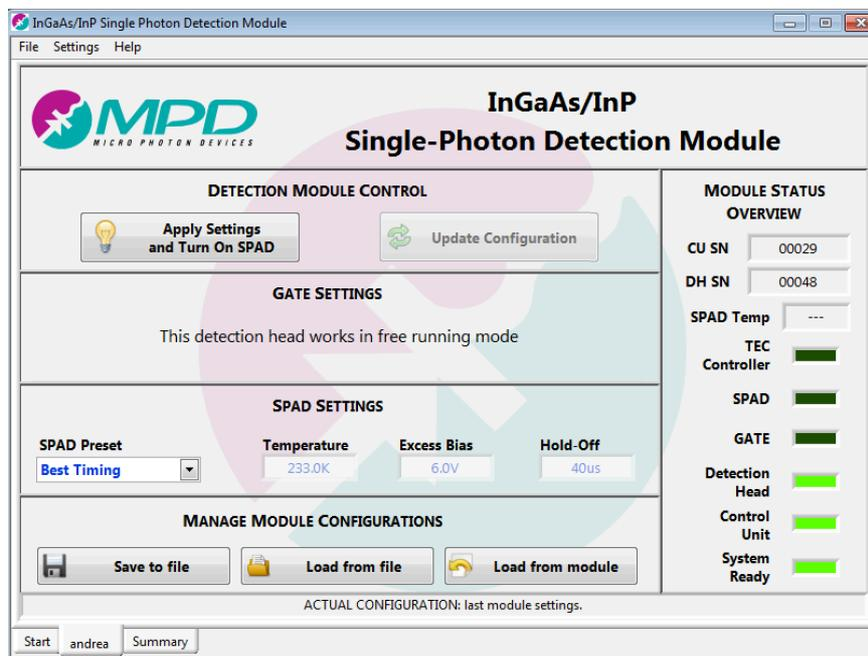
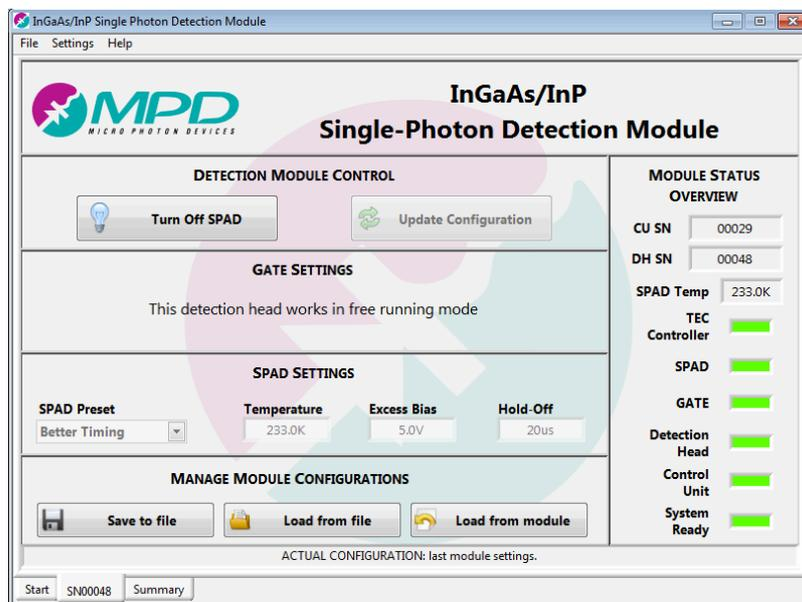

Figure 2.8. Module tab screenshot before turning on the SPAD.
Figure 2.9. Module tab screenshot after having turned-on the SPAD (with Better Timing preset).
After clicking the *Accept Config* button, in the *Start* tab, the software creates a module tab for each attached system. The tab label reflects the *Custom Name* given at the specific module. Every module tab opens an interface whereby all the configurable parameters of the detector can be set. In Figure 2.8 it is reported a page screenshot, taken before turning ON the SPAD. The next paragraphs will describe all the controls, buttons and indicators that can be found into this window, divided by section.
In this section of the panel there are two buttons: “*Apply Settings and Turn On SPAD*” and “*Update Configuration*” (Figure 2.8). The first button changes to “*Turn Off the SPAD*” after the InGaAs/InP SPAD has been turned on, as shown in Figure 2.9, and will revert to the first name after the turning off of the SPAD. The two buttons are used to upload the user-defined parameters in the control unit and turn on and off the detector. In particular:
- *Turn Off SPAD* button: if the SPAD is on, this button replaces the “*Apply Settings and Turn On SPAD*” one (as shown in Figure 2.9). In order to shut down the detector, this button must be clicked and the user has to wait until the *SPAD* status LED, in the “*Module Status Overview*”, is off.
the *Temperature*, *Excess Bias* and *Hold-Off* controls, shown for example in Figure 2.9 and highlighted in Figure 2.12, become active and the user can enter the desired values.